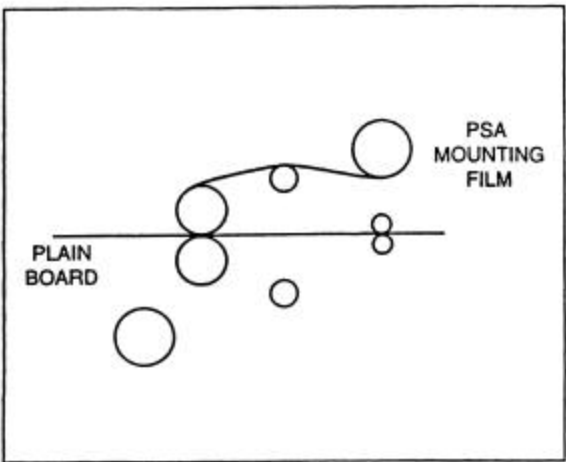

Fig. 11
1. Load the laminator as shown in Figure 11.